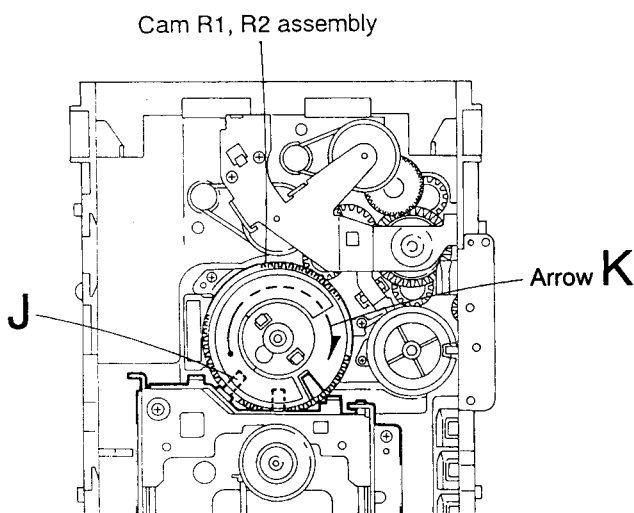

Fig.5-45
**Removing the CD mechanism** (See Figs. 5-45 and 5-46)
1. For dismantling only the CD mechanism without removing the CD mechanism assembly, align the shaft "J" of the CD mechanism assembly to the position shown in Fig. 5-45 while turning the cam R1 and R2 assembly in the arrow direction "K".